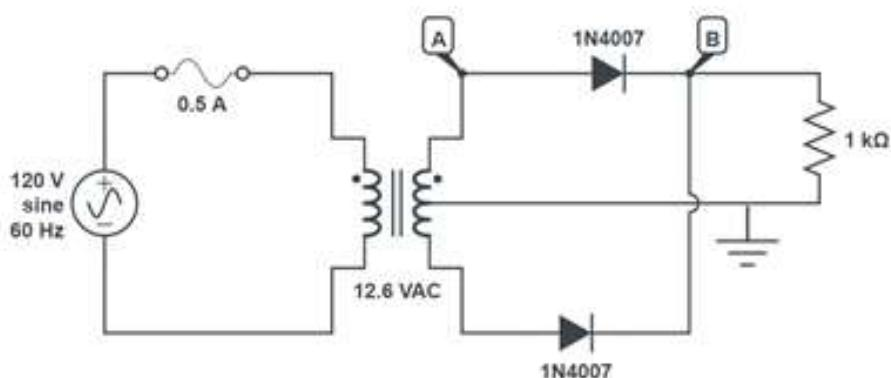

FIGURE 2-3: Schematic Diagram of Full-wave bridge rectifier circuit
5. Turn off the power to the transformer and wire the center-tapped full-wave circuit shown in Figure 2-3. Again, pay careful attention to the polarity of both diodes and the connections to the 120-V primary of the transformer. The center-tapped lead is grounded for this section.